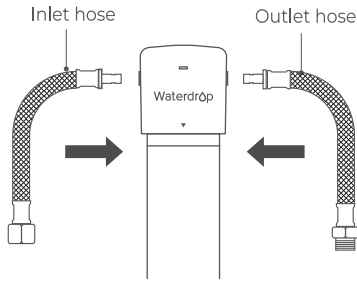

Figure 1
1. Connect the inlet hose and the outlet hose to the filter head. (**Figure 1**)